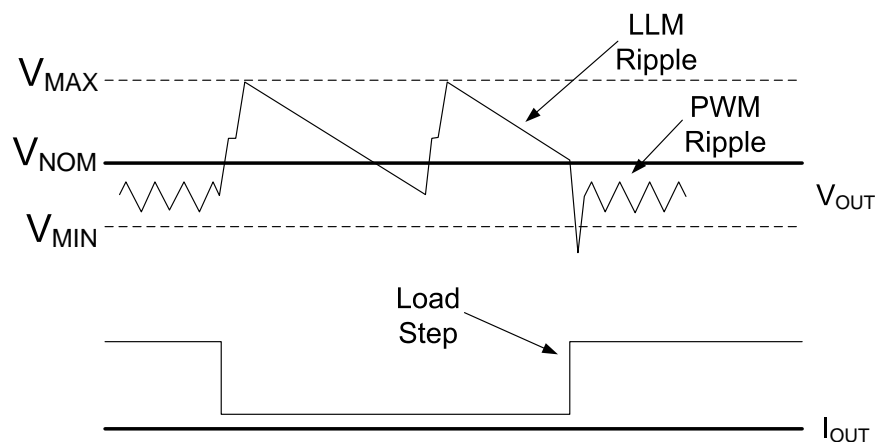

Figure 5:  $V_{OUT}$  behavior in LLM operation
When  $V_{OUT}$  falls below  $V_{NOM}$ , the device will repeat (1), (2), and (3). The voltage step up, or pre-positioning, improves transient droop when a load transient causes a transition from LLM mode to PWM mode. If a load transient occurs, causing  $V_{OUT}$  to fall below the threshold  $V_{MIN}$ , the device will exit LLM operation and begin normal PWM operation. Figure 5 demonstrates  $V_{OUT}$  behavior during transition into and out of LLM operation.